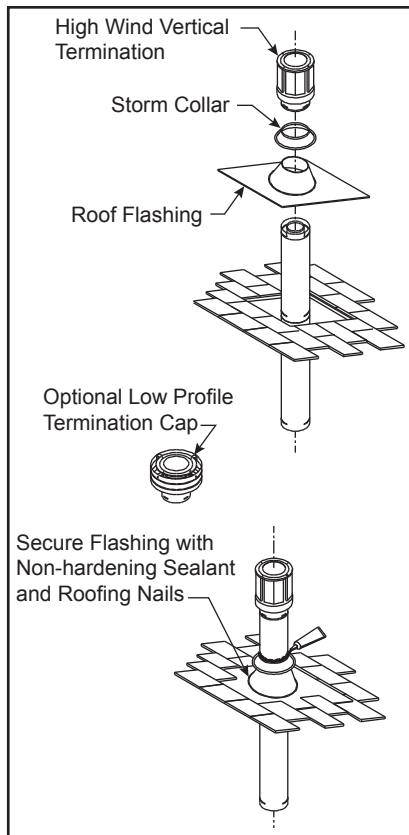

Figure 36
Ensure the roofing material overlaps the top edge of the roof flashing, Figure 36. Verify that you have at least the minimum clearances to combustibles at the roofline and in the attic.
Step 9 - Slip the storm collar over the pipe section, and push it down to the top of the roof flashing, Figure 36. Use non-hardening sealant between the storm collar and the pipe section